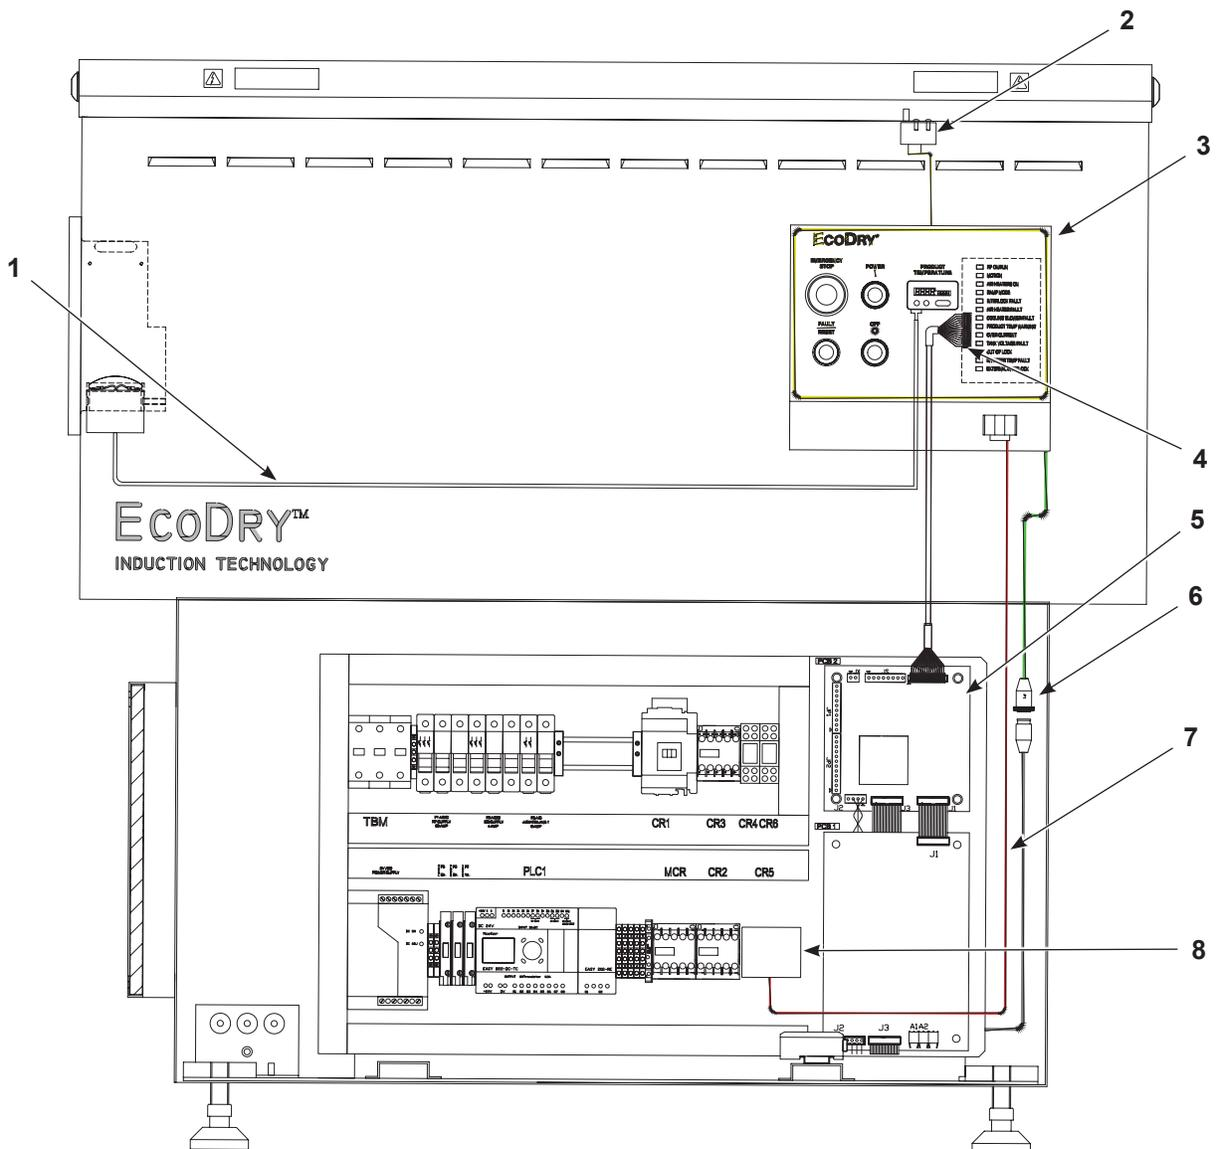

Figure 2 Removing Old Operator Panel
3. See Figure 2. Disconnect P1 inline connector (6) from the operator panel (3) to the system.
4. Disconnect thermocouple wire (1) from the back of the operator panel (3).
5. Disconnect and remove the wiring for the ramp power potentiometer (7), and the timer relay (8) and associated wiring.
6. Carefully remove the LED board display cable connector (4) from the back of the LED display board. Leave the other end connected to the interface board (5).
7. Disconnect the two wires connected to the lid interlock switch (2).
8. Remove the eight operator panel screws and remove the operator panel (3).